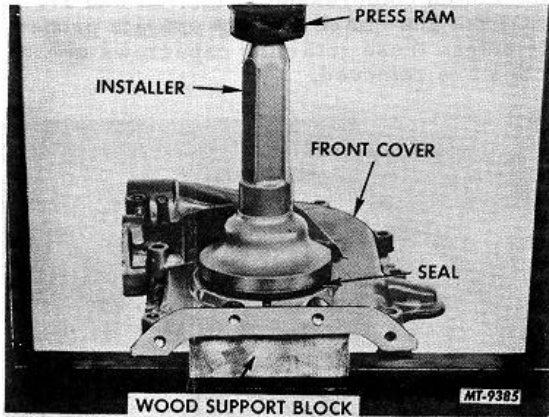

Fig. 150 Pressing New Seal in Engine Front Cover Using SE1949 Installer and Wood Support Block
12. Press new oil seal in engine front cover using a wood support block and combination seal installer and front cover aligner SE1949 as shown in Fig. 150.